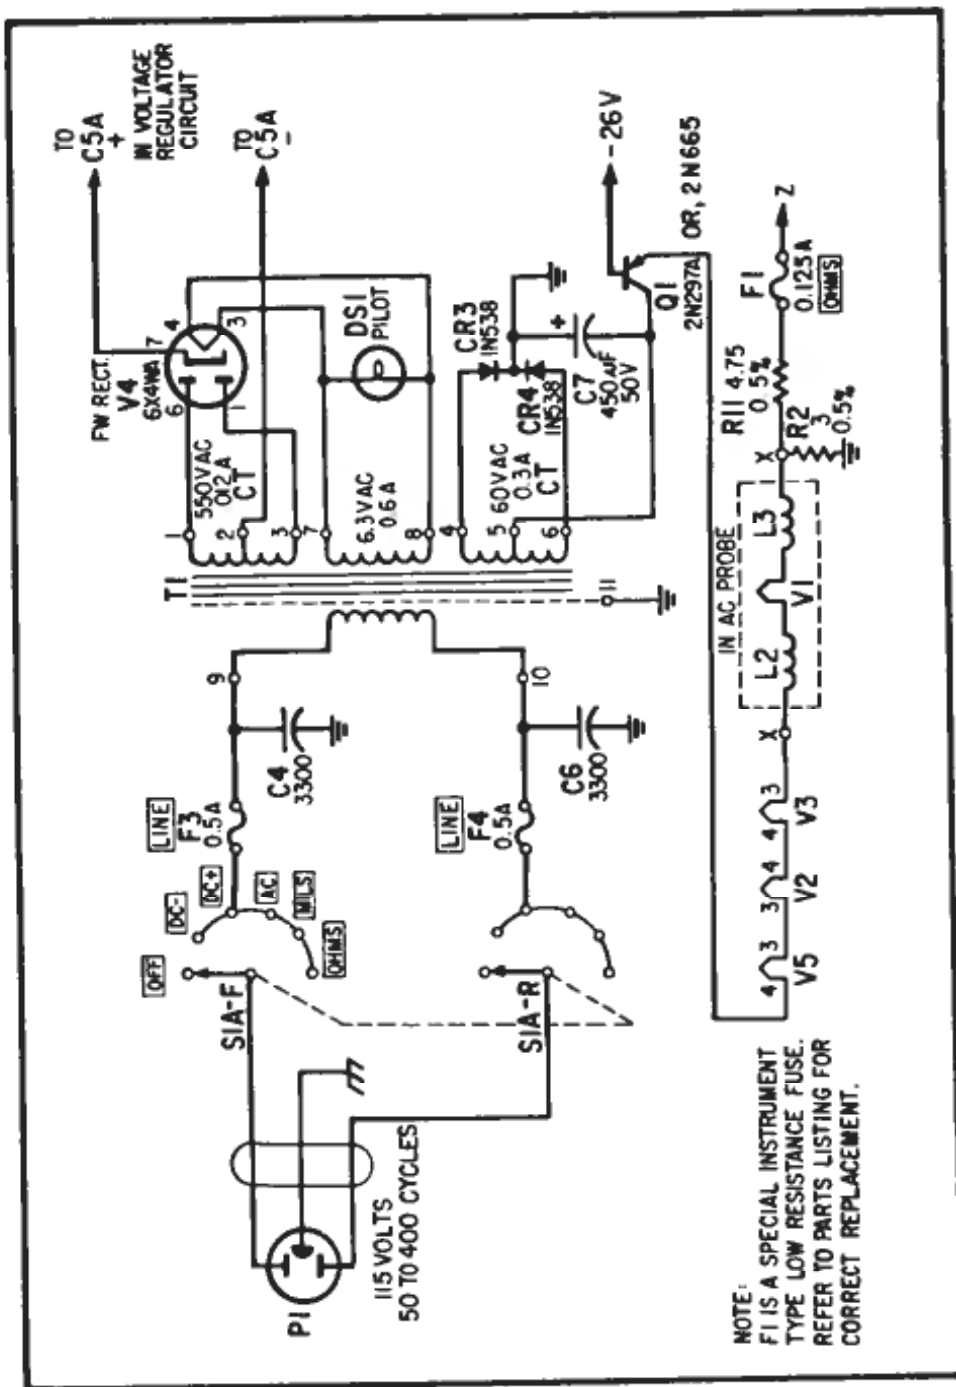

Figure 4-7. Power Supply Circuits, Schematic Diagram
f. POWER SUPPLY CIRCUIT (see figure 4-7). The power supply is a conventional full-wave circuit. It supplies positive plate and screen potentials for tubes V2, V3 and V5. Fuses F3 and F4 are incorporated as protective measures against overloads. Capacitor C5A is a filter for the power supply. Pilot lamp DS1 is connected across the 6.3 filament winding of V4. Another winding on the secondary supplies the regulated heater voltage. This voltage is rectified by diodes CR3 and CR4, (full-wave rectification) and applied to transistor Q1. Transistor Q1 is connected as an emitter-follower and acts as a voltage